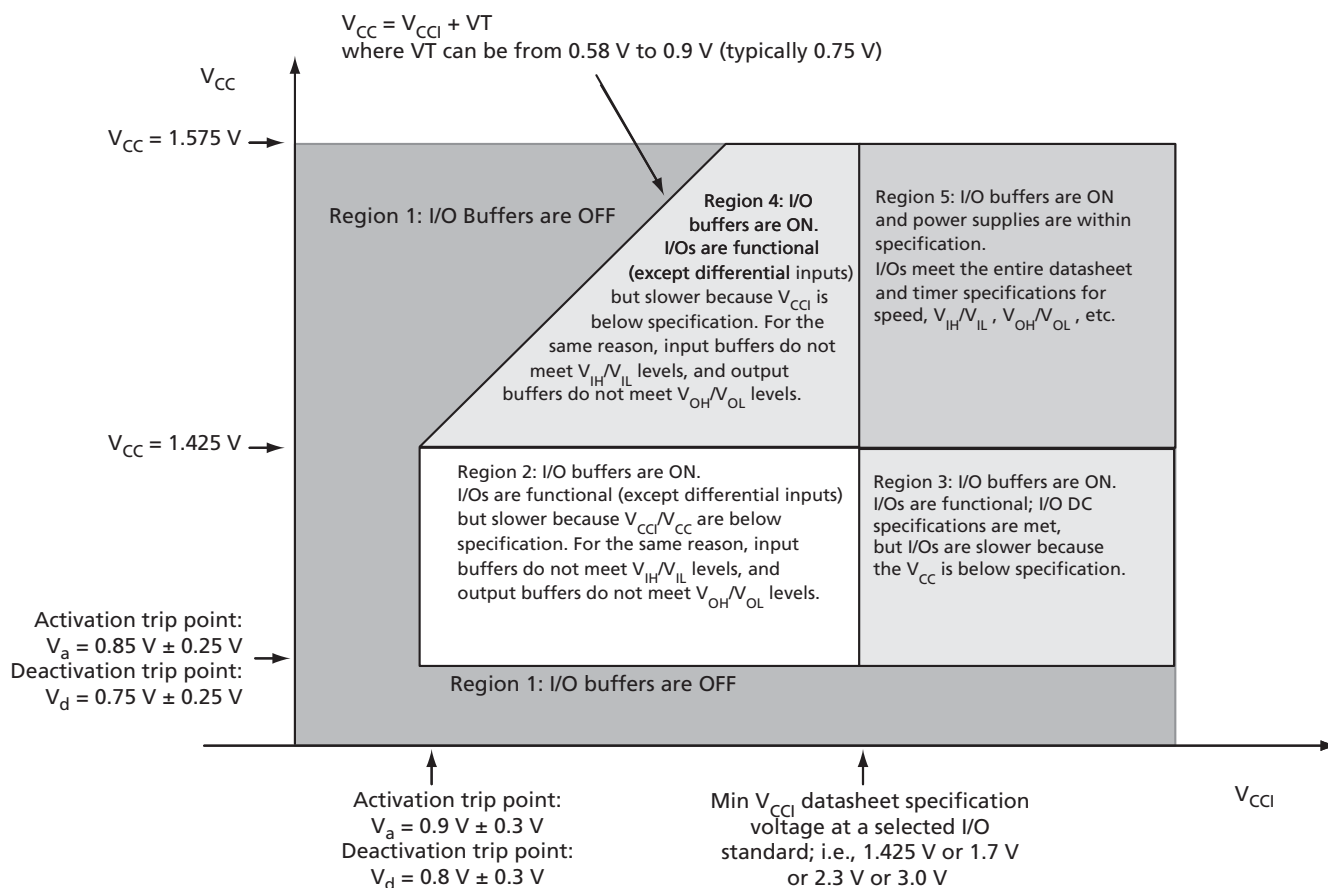

Figure 3-1 • I/O State as a Function of  $V_{CCI}$  and  $V_{CC}$  Voltage Levels
Sophisticated power-up management circuitry is designed into every ProASIC3E device. These circuits ensure easy transition from the powered-off state to the powered-up state of the device. The many different supplies can power up in any sequence with minimized current spikes or surges. In addition, the I/O will be in a known state through the power-up sequence. The basic principle is shown in Figure 3-1.
1.  $V_{CC}$  and  $V_{CCI}$  are above the minimum specified trip points (Figure 3-1).